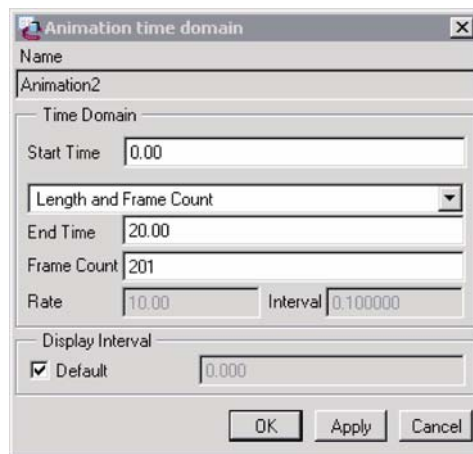

Figure 12-111: Time Domain
Step 4: Double pick the timeline at the bottom of the work screen and set the time domain values shown in Figure 12-111.
Step 9:  Select the **START** icon on the **Animation** toolbar (Figure 12-111).